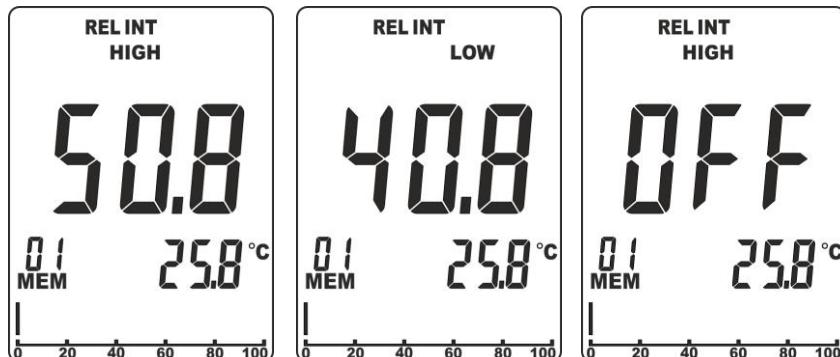

Fig. 6: Setting of alarm thresholds for MOI INT and MOI EXT measurement
1. Press and hold keys **RH%** and **MODE/ZERO** at the same time for a few seconds. The symbol “**HIGH**” is shown on the top of the display (see Fig. 6 – left side).
2. Use the arrow keys **◀** or **▶** to set the value of Maximum threshold in range: **0.1% ÷ 99.9%**. In these conditions, the instrument will give out a **continuous** sound when the measured value of humidity is higher than the set threshold. Select option “**OFF**” to disable the alarm (see Fig. 6 – right side)
3. Press key **MEM/ALM** to confirm and go to the setting of the Minimum threshold. The symbol “**LOW**” is shown on the top of the display (see Fig. 6 – middle).